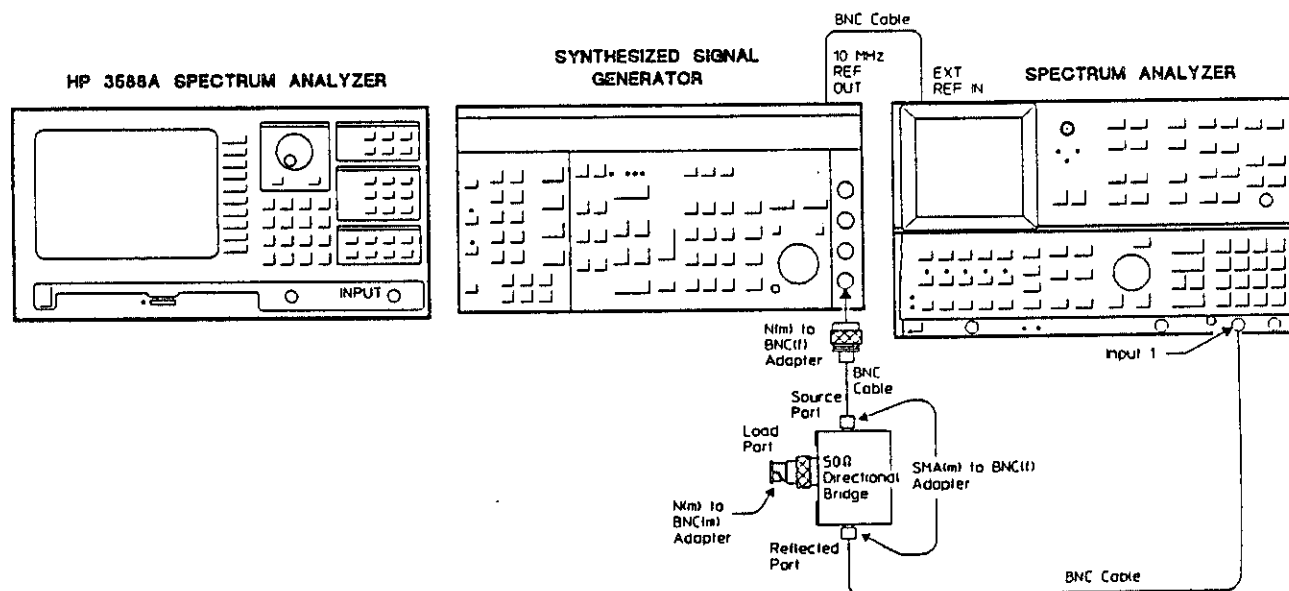

Figure 3-16. Input Return Loss Setup
1. Connect the test equipment as shown in figure 3-16.